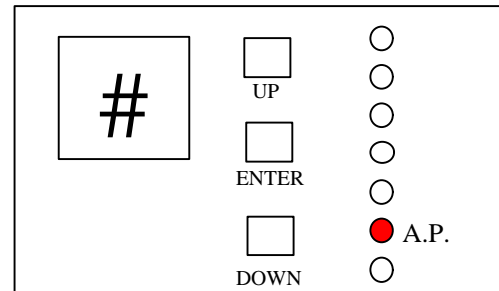

Figure 6
- The turntable may be set to automatically go into a pause mode after each step. To adjust or check the status of this mode, press DOWN until the lamp next to **A.P.** is illuminated (Figure 6).